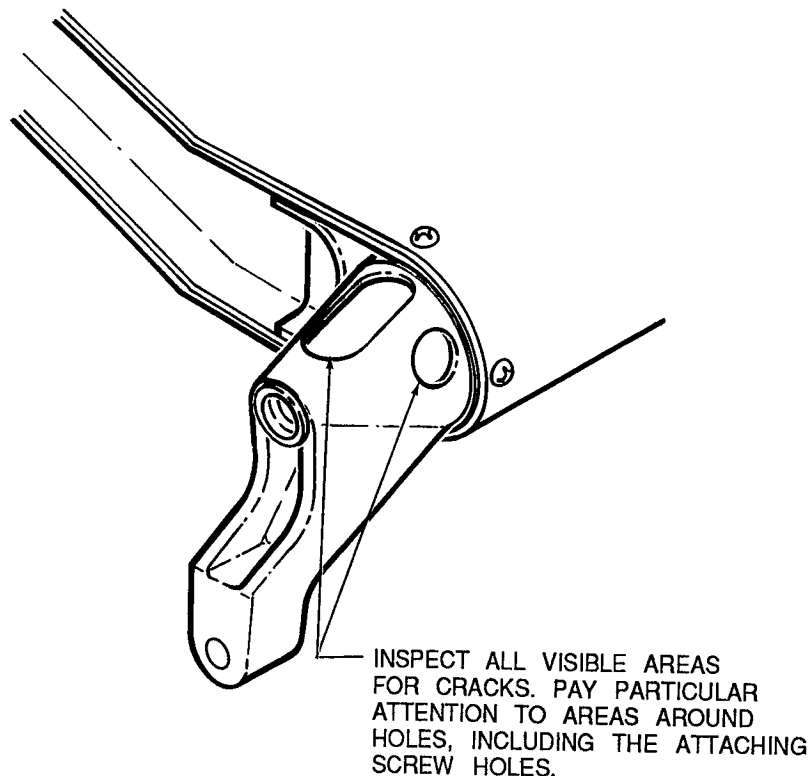

Figure 1
1. Refer to Figure 1 and inspect both elevator control fittings as shown.